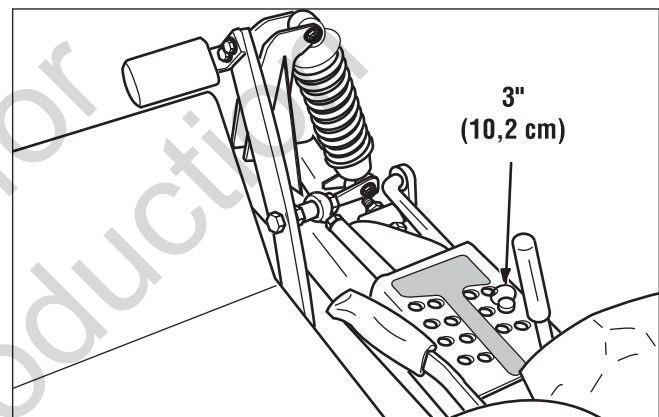

Figure 40. Deck Lift Pedal & Pin Position
6. To ensure that the deck is in the lowest position, push the pedal by hand towards the rear of the unit and install the height adjustment pin in the 3" (7.6cm) position to hold in place. See Figure 40.